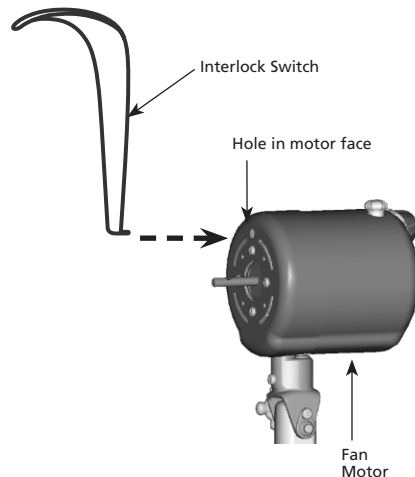

FIGURE 6
27. Insert the interlock switch into the hole on the top of the motor face. See Figure 6.